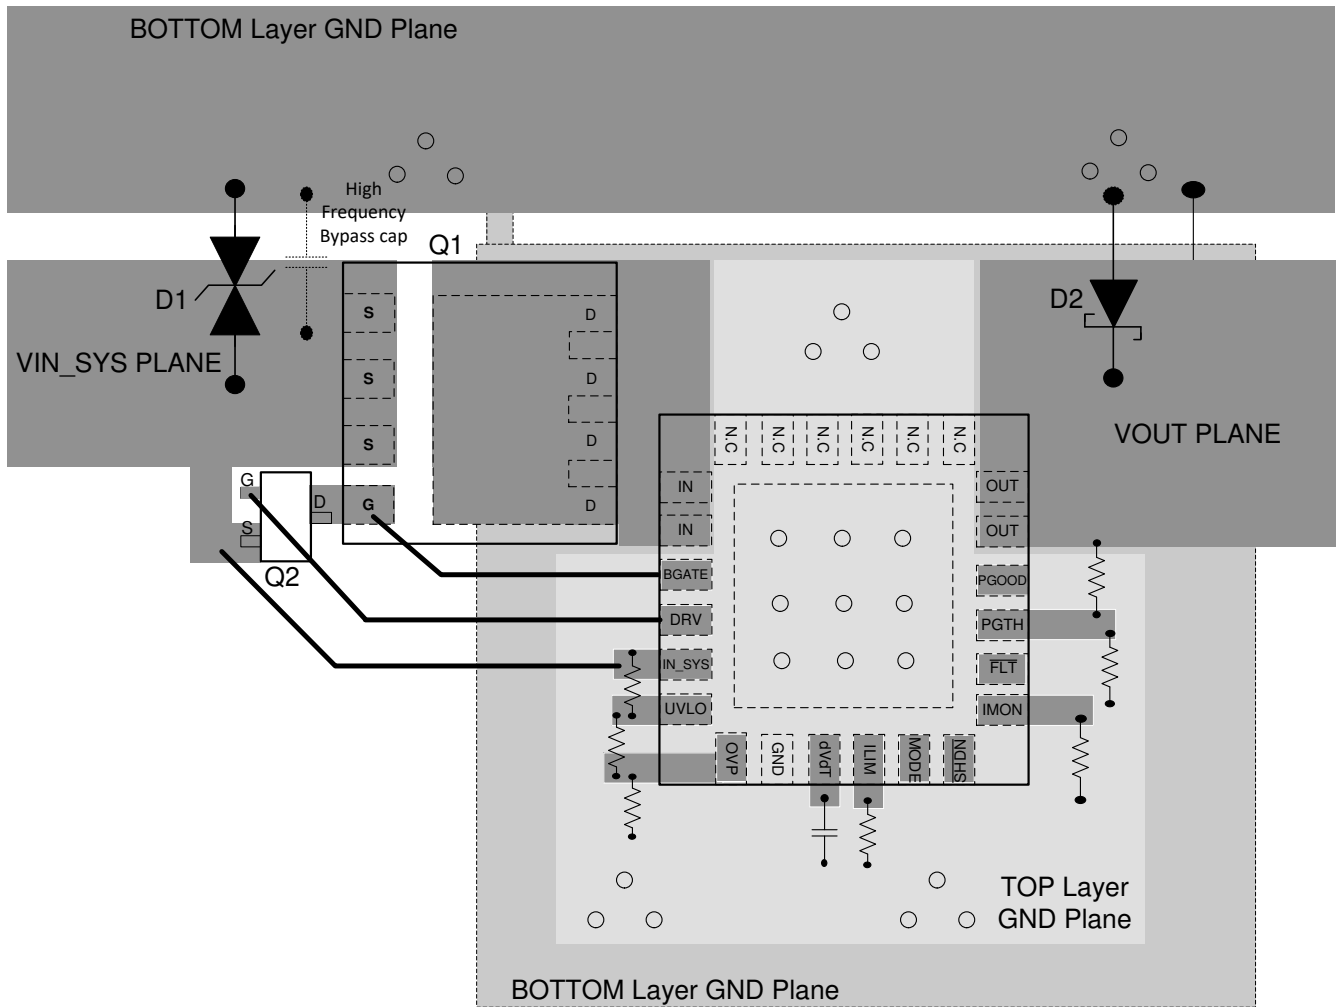
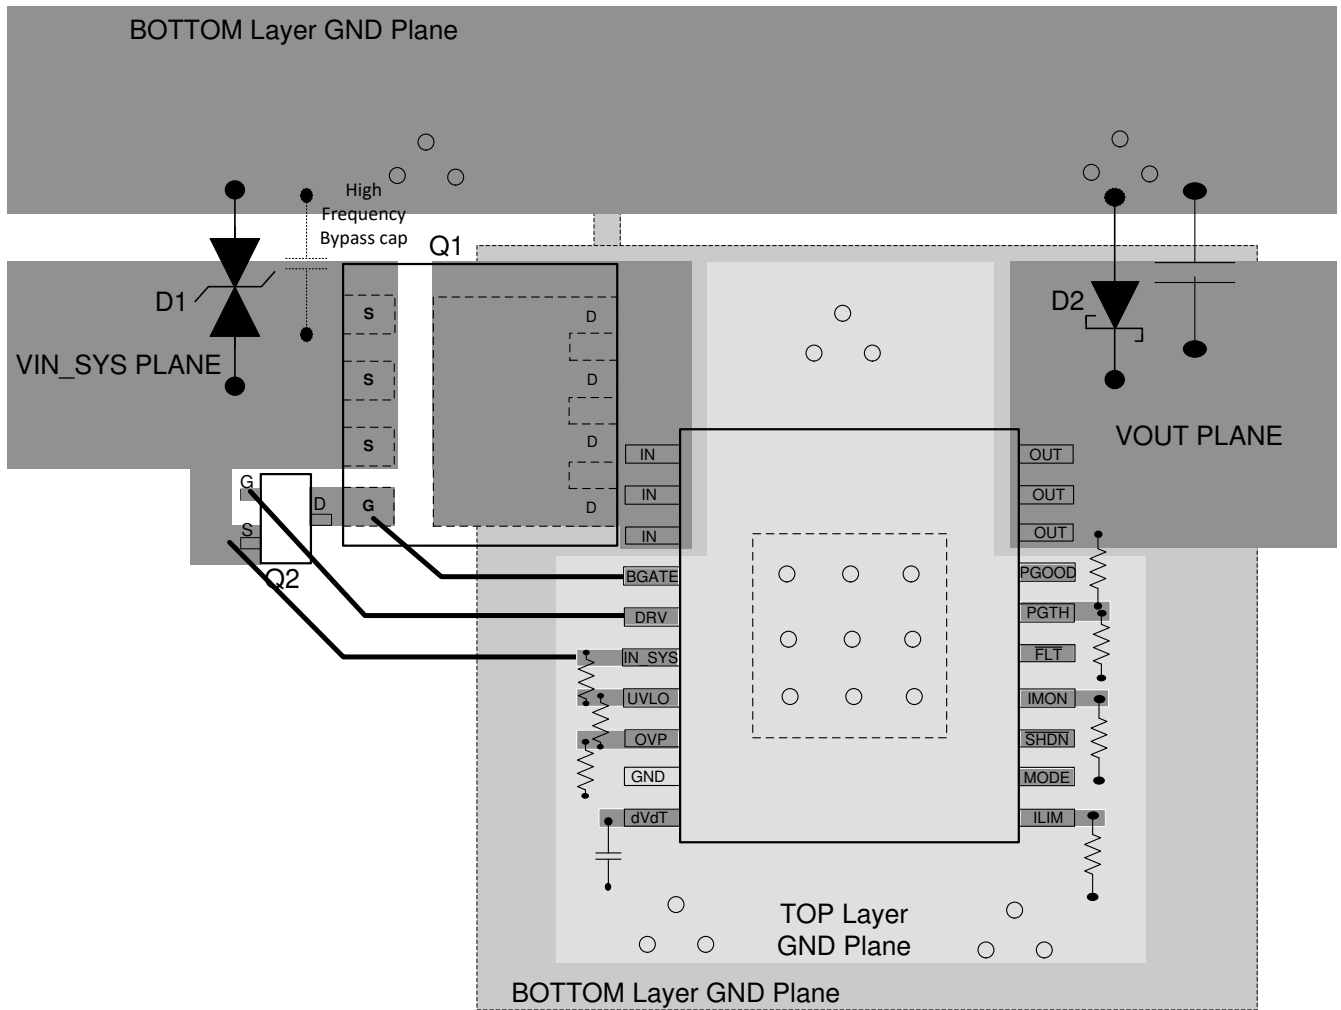

图 9-18. Typical PCB Layout Example with QFN Package with a 2-Layer PCB
图 9-19. Typical PCB Layout Example with HTSSOP Package with a 2-Layer PCB
- The external FET Q1 must be placed with DRAIN close to the V_{IN} pins of the IC and connected through a plane. The fast pulldown switch Q2 DRAIN and SOURCE must be placed very close to the GATE and SOURCE terminals of Q1 with very short loop. See 图 9-18 and 图 9-19 for a typical PCB layout example.